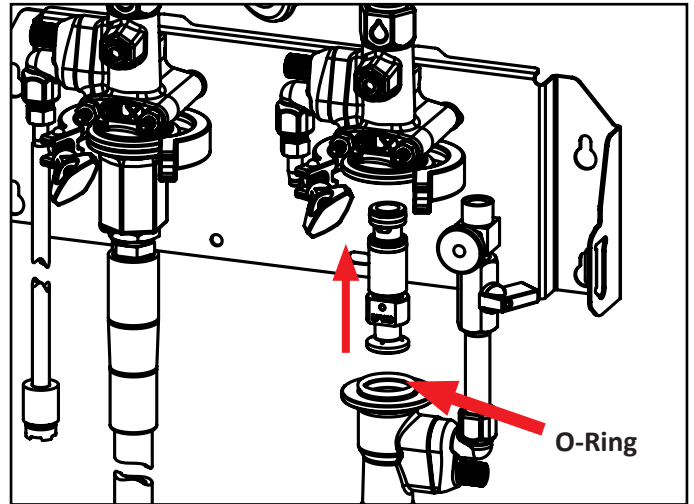

Fig. 10.1: Replacing venturi insert and foamer body
7. Replace insert when clean or with a new version by sliding it back into the upper body, o-ring section first. [Fig 10.1]